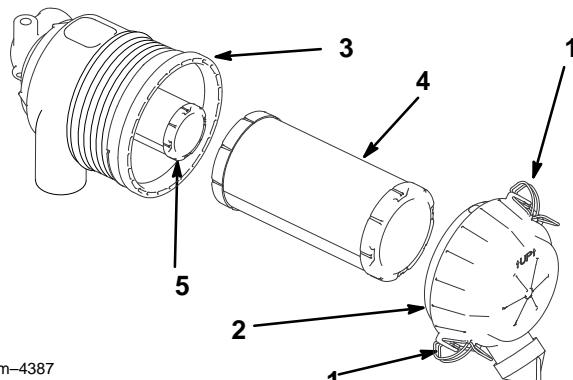

Figure 22
- Release the latches on the air cleaner and pull the air cleaner cover off of the air cleaner body (Fig. 22).
- Gently slide the primary filter out of the air cleaner body (Fig. 22). Avoid knocking the filter into the side of the body. Do not remove the safety filter, unless you intend to replace it as well.
2. If the safety filter is being replaced, carefully slide it into the filter body (Fig. 22).
3. Carefully slide the primary filter over the safety filter (Fig. 22). Ensure that it is fully seated by pushing on the outer rim of the filter while installing it.
4. Install the air cleaner cover with the side indicated as UP facing up and secure the latches (Fig. 22).